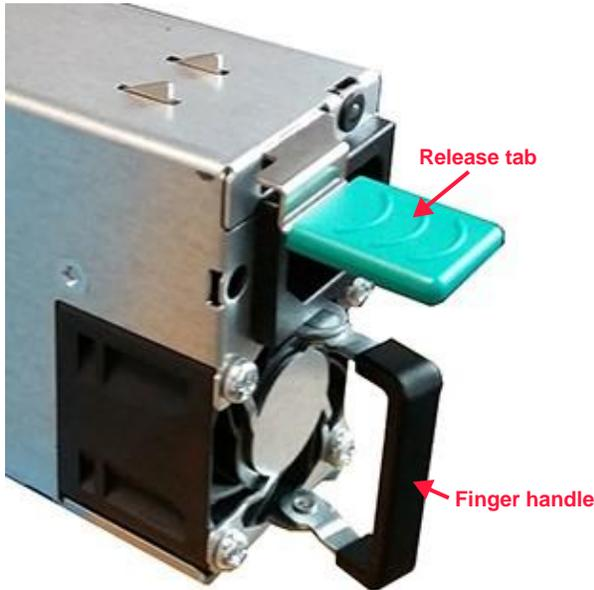

Figure 3.9 PSU removal
2. Press down on the release tab on the first PSU to release the cam from the locked position. The release tab cannot be pressed if the power cord is still plugged into the PSU jack. Figure 3.9 shows the location of the release tab.
3. Pull the PSU out of the enclosure using the black finger handle, which is also shown in Figure 3.9.